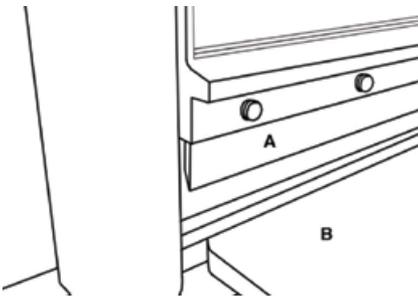

FIGURE 12
2. Once blade has been sharpened or replaced, it can be re-installed. Position the blade (Fig. 12-1) with its flat edge facing the table (Fig. 12-B). Make sure the mounting surface and blade are clean, re-install the blade with the seven allen head screws removed earlier using the supplied hex key.